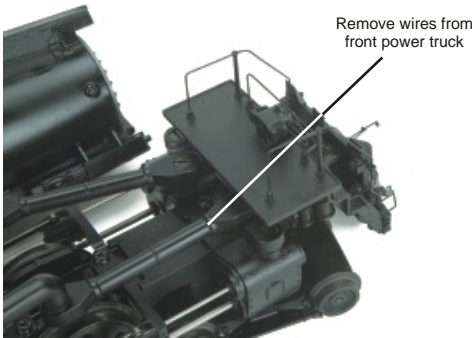

Figure 14
- 3) Remove wires from front power truck (Fig. 14).